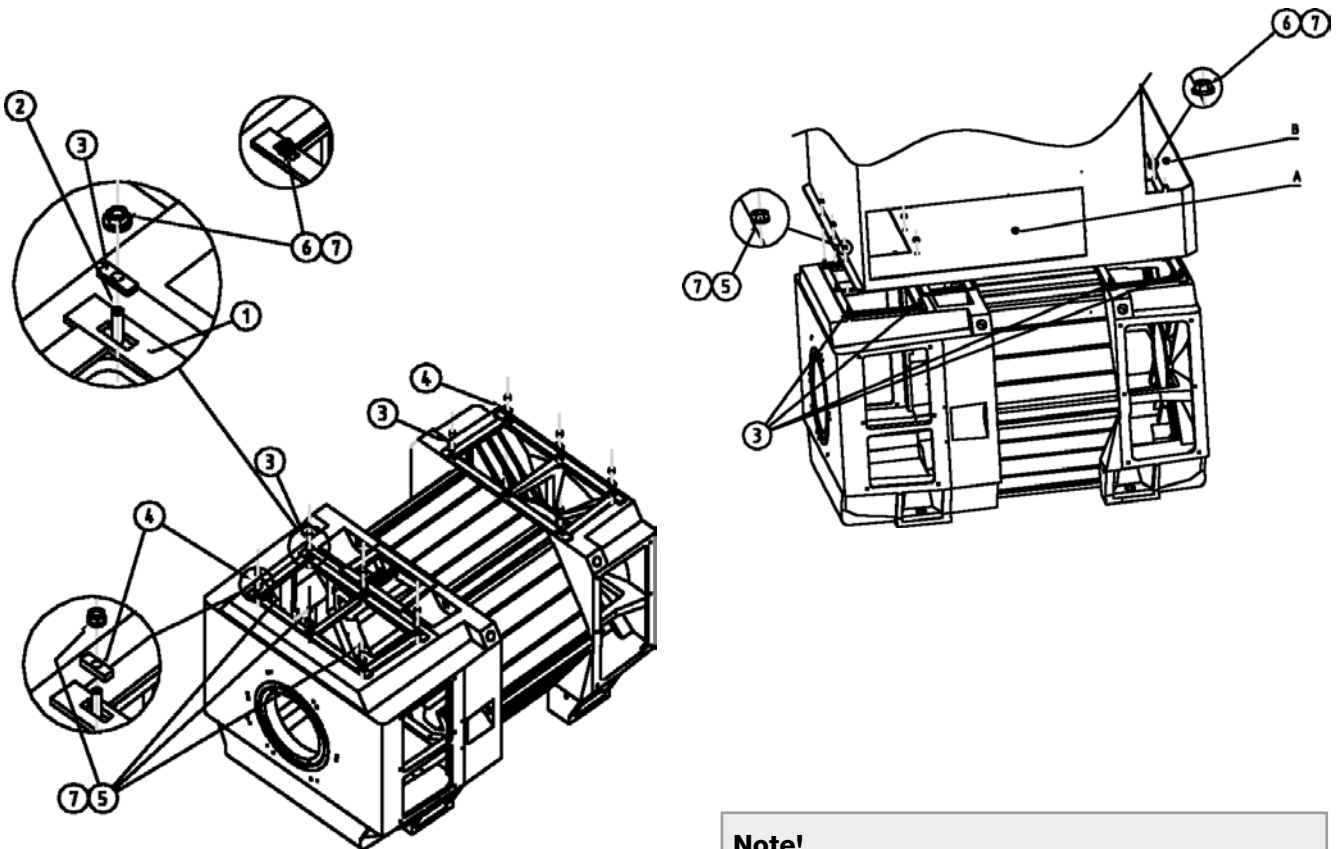

Figure 19 Mounting of heat exchanger for DMI 315 and 400.
DMI 315 and 400 prepared for IC 666 and IC 86W heat exchangers are delivered with pre-mounted gaskets (item 1), set screws (item 2), washers (item 3 and 4), spacers (item 5 and 6) and hexagon nuts (item 7) according to figure 19 as standard.
1. Remove nuts and plain washers (item 5, 6 and 7) from the DMI machine.
4. Place the heat exchanger on top of the DMI machine and joint the heat exchanger at the flat point set screws of the DMI machine (item 2).
5. Tighten the heat exchanger with the plain washers and nuts (item 5, 6 and 7).